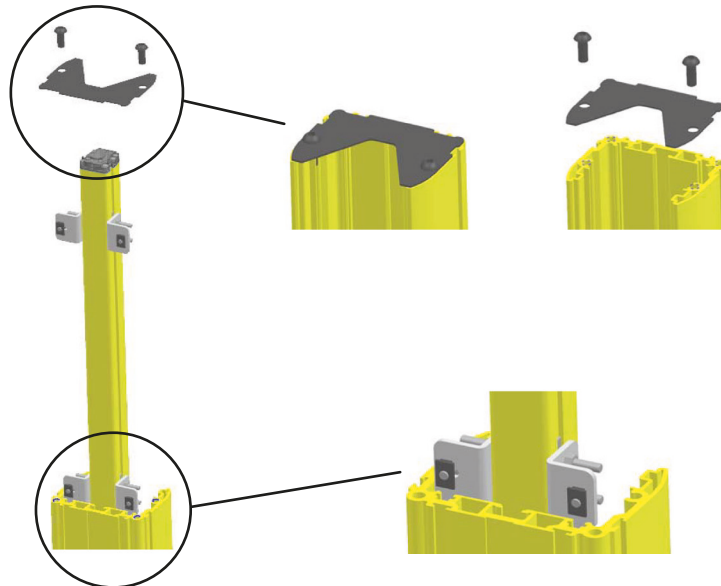

Figure 20: Installation – inserting the unit
3. After assembly of all brackets is complete, remove the column cover after loosening the two M8x20 ISO 7380 screws (Figure 20), and insert the assembled unit into the internal guides.
4. Once the unit has been fully inserted and its height set in the columns, screw the cover (Figure 20) back on.